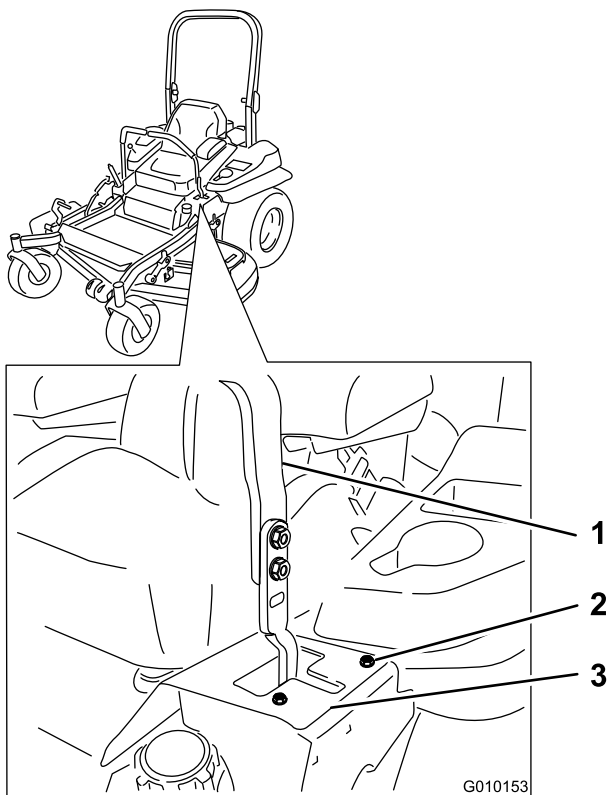

Figure 60
6. If it tracks to the right, loosen the bolts and adjust the left stop plate rearward on the left T-slot until the machine tracks straight (Figure 60).
7. If it tracks to the left, loosen the bolts and adjust the right stop plate rearward on the right T-slot until the machine tracks straight (Figure 60).
8. Tighten the stop plate (Figure 60).